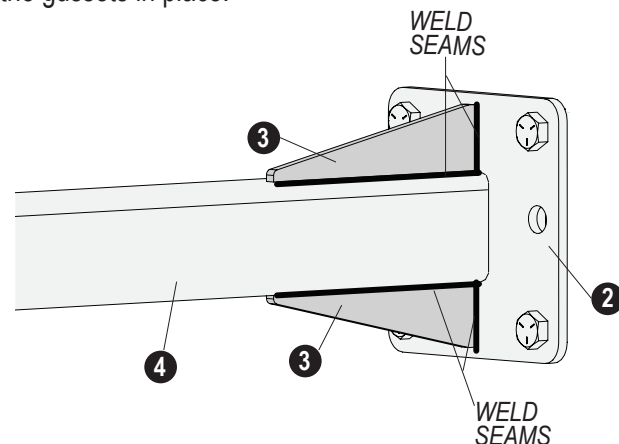

FIG. 173
NOTICE: When setting the offset tubes allow space to add gussets above or below the tubes for additional strength. See Figure 173.
Center a **gusset (3)** above and below each **offset tube (4)**, flush with the **offset plate (2)**, as shown in Figure 173. Weld the gussets in place.